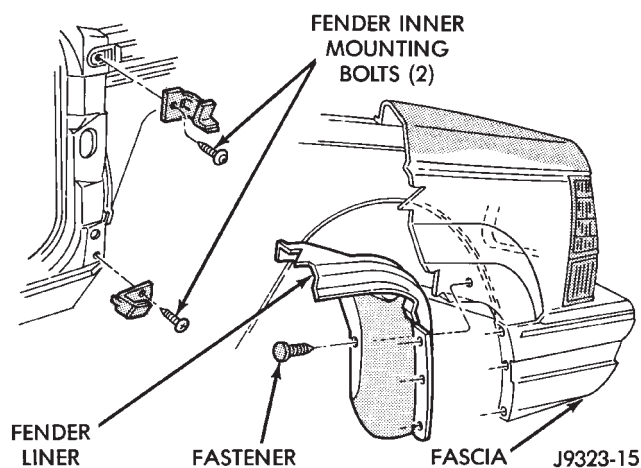

Fig. 23 Inner Fender Mounting
(7) From inside wheel well, remove 2 bolts at rear of fender reinforcements (Fig. 23).